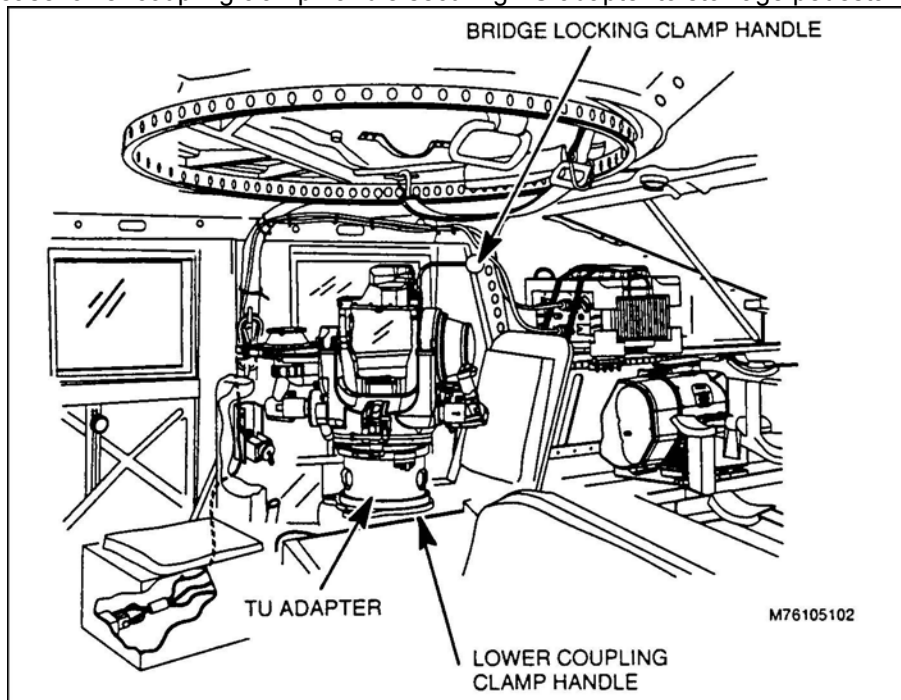

Figure 4. TU stowed on TU adapter.
2. Mount traversing unit (TU) on weapon station pedestal mount.
- a. Release lower coupling clamp handle securing TU adapter to stowage pedestal (Figure 4).